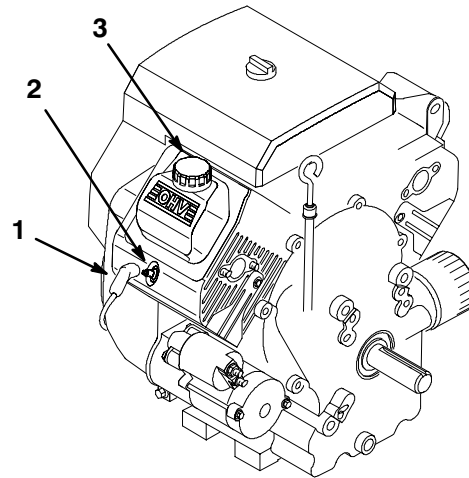

Figure 28
8. Slowly pour approximately 80% of the specified amount of oil into the oil filler tube (Fig. 28).
3. Pull the wire(s) off the spark plug(s) (Fig. 28).
- Push the wires onto the spark plugs (Fig. 28).